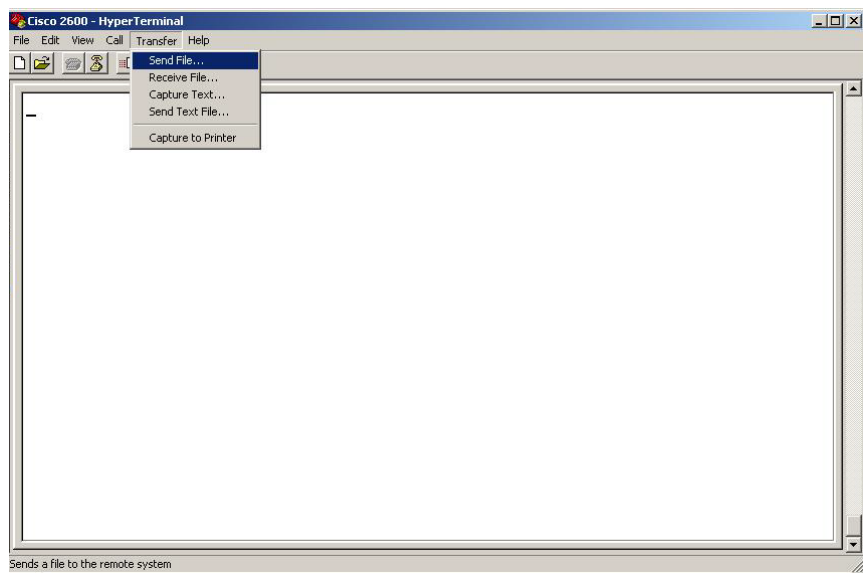

Figure 2-63: Send File Menu Command
16. Use HyperTerminal to transfer the supplied configuration file by selecting **Transfer>Send File**, as shown in Figure 2-63.